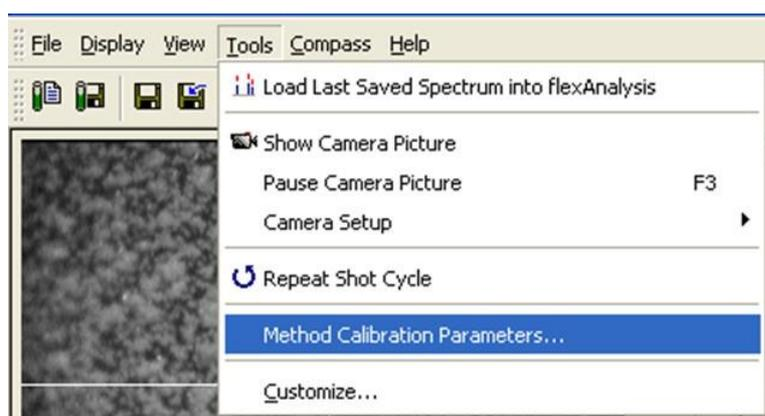

Figure 12 Method Calibration Parameters command from Tools menu
- Select **Tools > Method Calibration Parameters** (Figure 12) to set or check the calibration settings of the flexControl method.